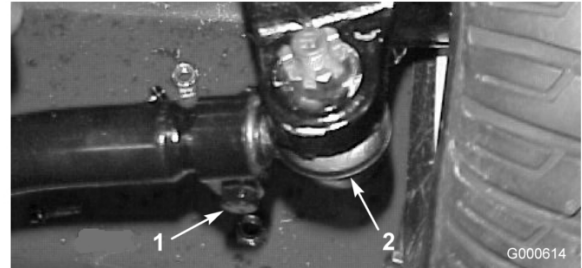

Figure 47
2. To adjust, remove the cotter pin and nut from either tie rod ball joint (Figure 47). Remove tie rod ball joint from axle case support.
3. Loosen the clamps at both ends of the tie rods (Figure 47).
4. Rotate the detached ball joint inward or outward one (1) complete revolution. Tighten clamp at loose end of tie rod.
5. Rotate the entire tie rod assembly the same direction (inward or outward) one (1) complete revolution. Tighten clamp at connected end of tie rod.